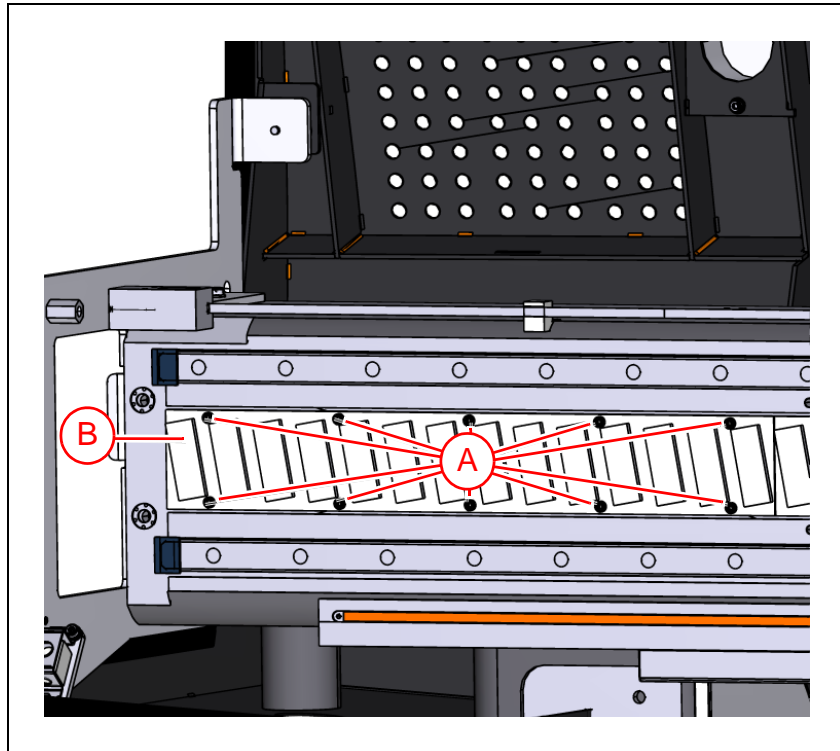

Figure 5-20. Removing the magnetic strips.
8. Loosen the ten screws ('A' in Figure 5-20) that attach the magnetic strip ('B') to the X beam.